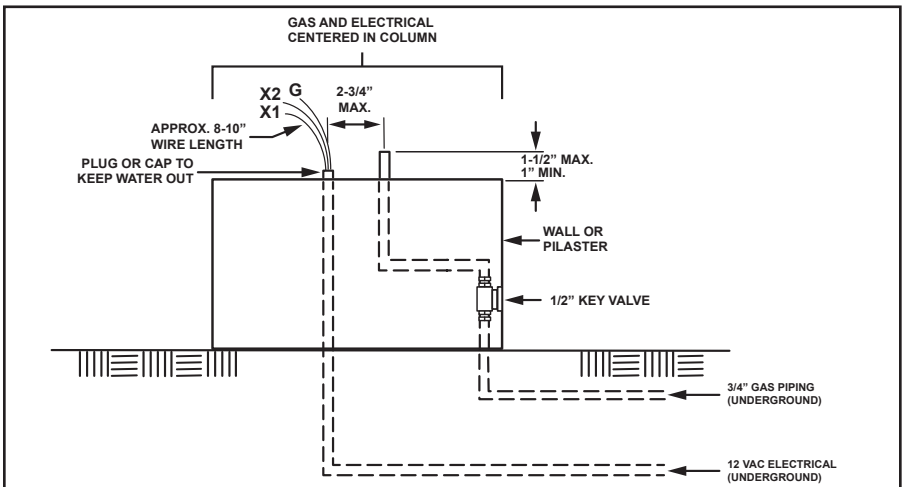

Figure 6. Piping
3. The piping must be reduced to $\frac{1}{2}$ " NPT or larger at each bowl, as shown in Figure 6.
Note: The gas and electrical connection at each bowl must be located at the center of each bowl. The connections must be installed as shown in Figure 6.